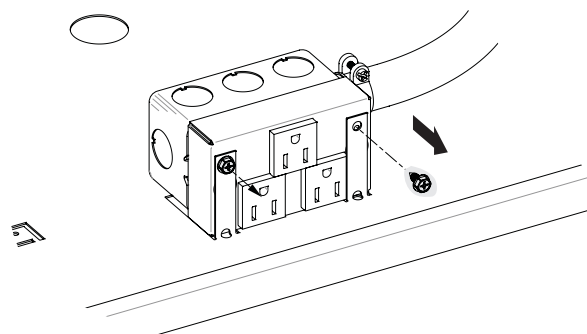

Figure 4
6. If more than one receptical is necessary in order to complete the installation, unscrew the junction box from the locating tabs so that it can be moved rearwards and plug the blower cord into one of the two bottom recepticals. **See Figures 4 and 5.**